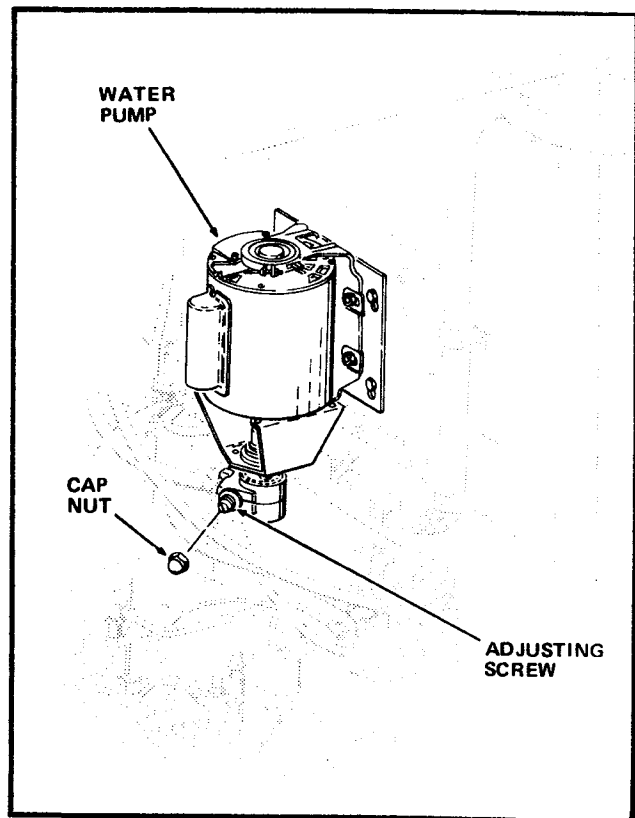

Figure 3-25. Water Pump Adjusting Screw
- ### C. Remove the Cap Nut from the base of the Water Pump Assembly to expose the Adjusting Screw. See Figure 3-25.